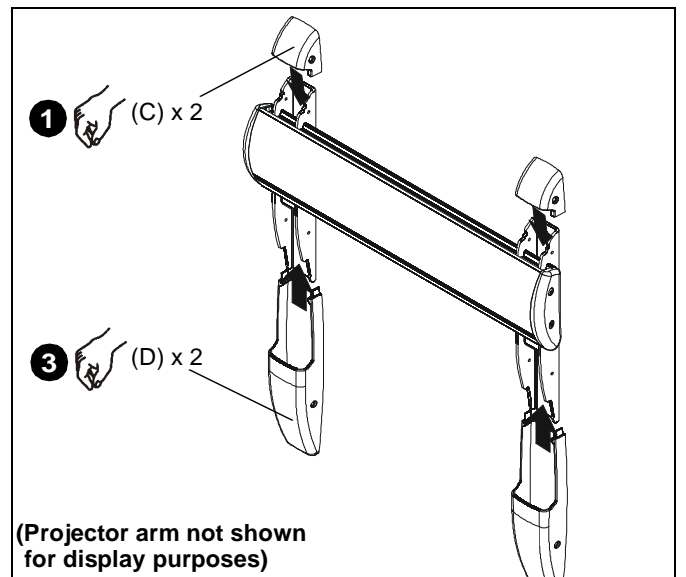

Figure 62
- Place wall bracket top caps (C) over top of each wall bracket arm. (See Figure 62)
- Place wall bracket bottom caps (D) over bottom of each wall bracket arm. (See Figure 62)